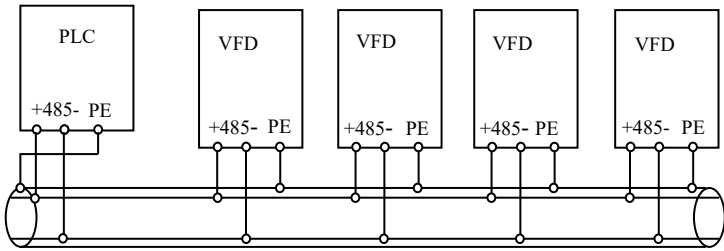
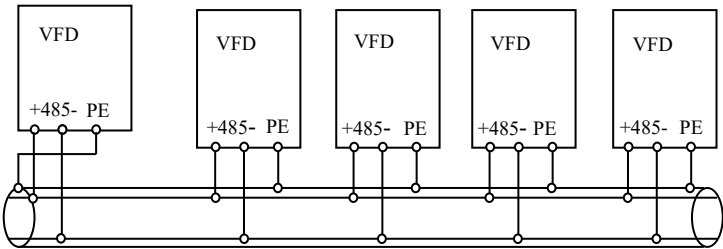

Fig. 3-12 PLC communication with multi VFDs
Fig. 3-13 Multi VFDs communication
- (3) Multi VFDs can be connected together via RS485, controlled by PC/PLC as a host shown as Fig. 3-12. It also can be controlled by one of VFDs as a host shown as Fig. 3-13.